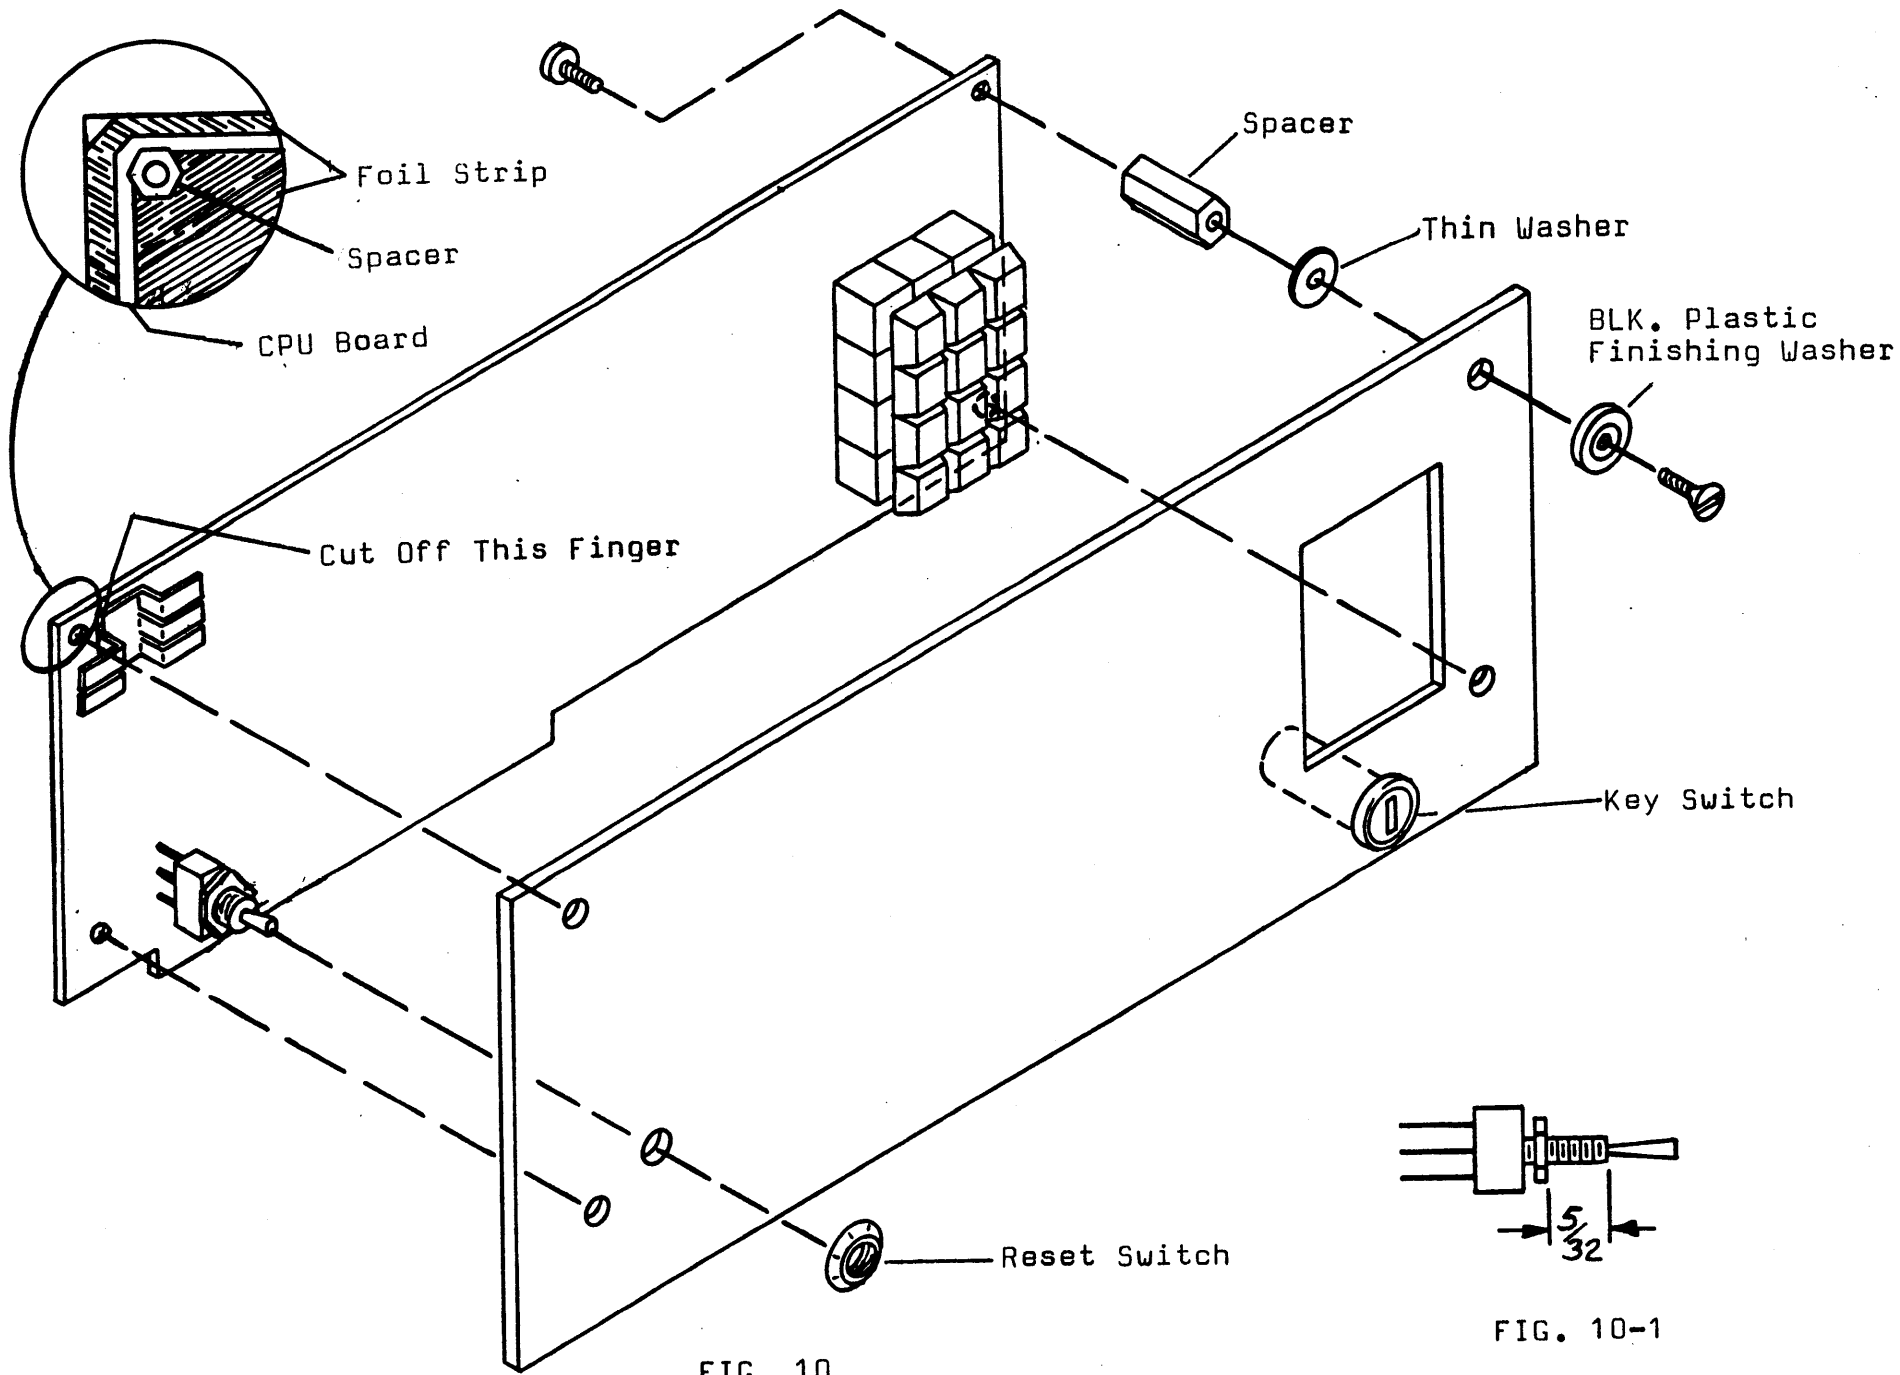

FIG. 10
- () As shown in Fig. 10, cut, with wire cutters, the upper left hand "finger" from the upper left hand heat-sink on the CPU board.
- () Refer to Fig. 10. Mount the four 1" spacers to the front panel. Use four black #6-32 x 3/8" screws, four black finishing washers, and four #6 flat washers. Do not tighten these four screws at this time.
- () Orient the CPU board as shown in Fig. 10. Position the leads from the reset switch through the holes in the CPU board.
- () Attach the CPU board to the four (4) 1" spacers with four (4) #6-32 x 3/8" screws. Position the spacer on the upper left hand corner according to the detail drawing on Fig. 10. Be sure the spacer clears the foils as shown, otherwise it could short between the CPU board foils.